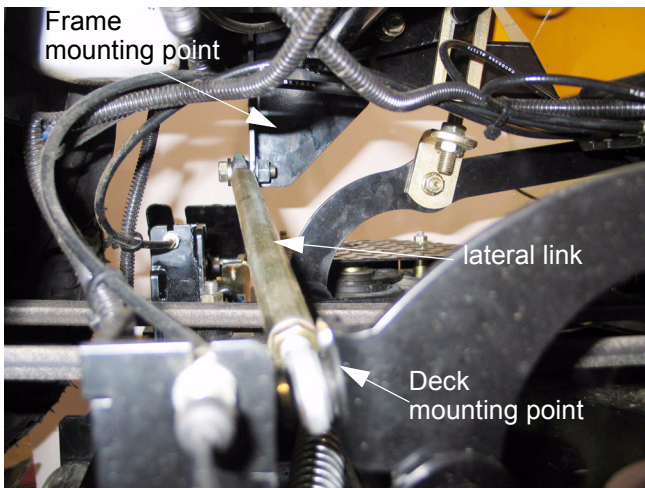

Figure 7.4
- 7.4. Mowers produced after mid-season 2005 (2005/2) are equipped with a lateral brace between the frame and the mowing deck, similar to a panhard rod in the rear suspension of a car or truck. Disconnect or remove the lateral brace as required by the task at-hand using a 5/8" wrench and an 11/16" wrench. See Figure 7.4.